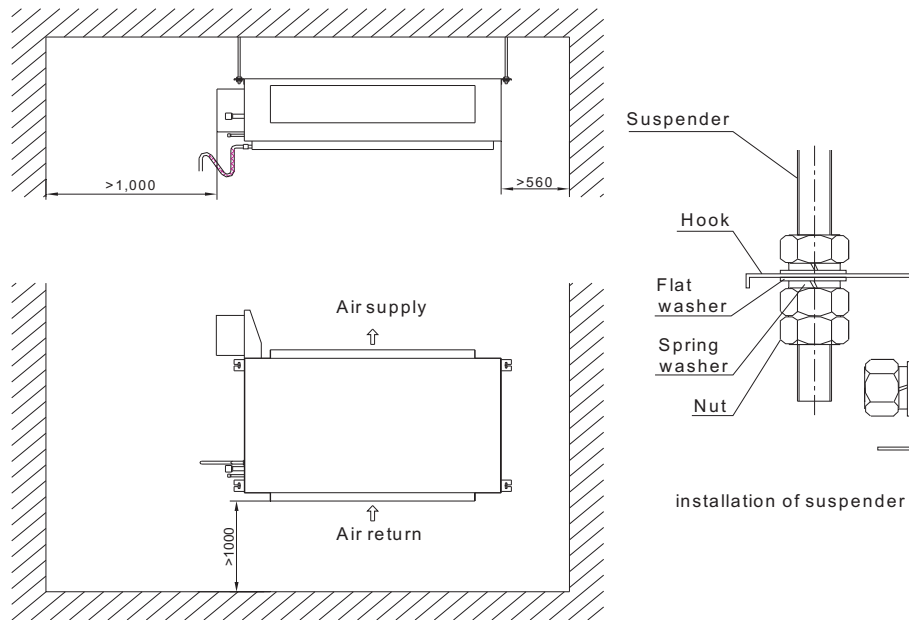

Fig.2
2). Main body of the indoor unit The indoor unit should be installed horizontally and the demand of installation space is shown in Fig. 2. To install an indoor unit needs 4 hanging rods, and each hanging rod should at least withstand four times of the unit's weight.